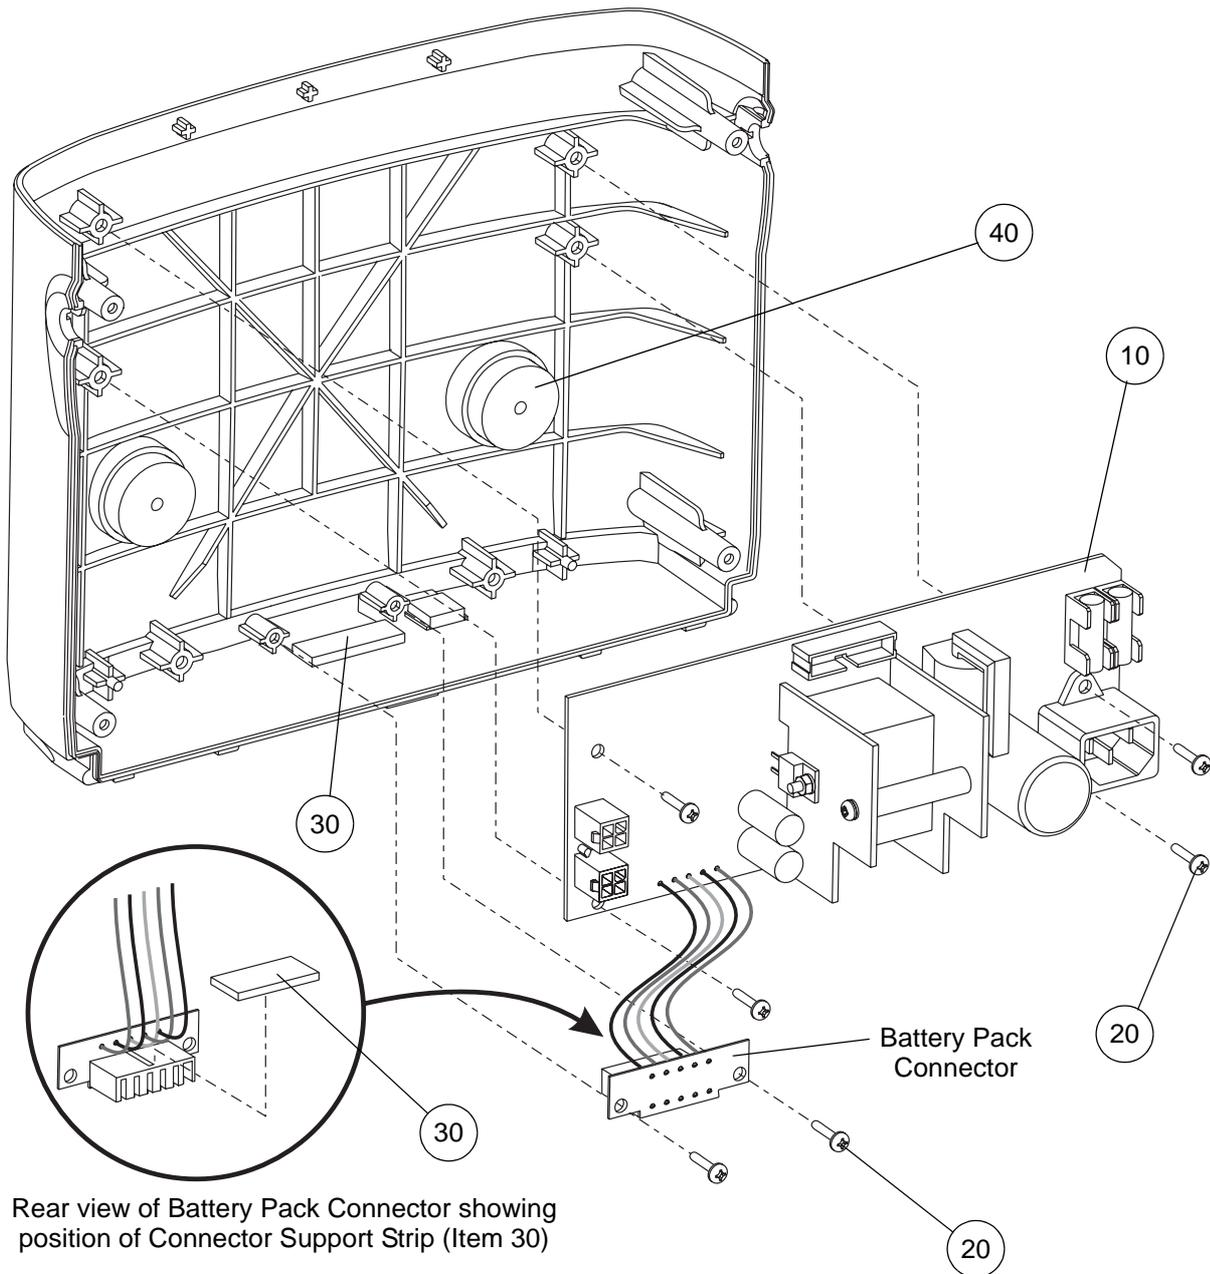

Figure 50 - Replacing the Power Supply PCB Assembly
- 26.3 Remove the two screws (Fig 50, Item 20) and the battery pack connector from the front case.
- 26.4 Remove the four screws (Fig 50, Item 20) and the power supply PCB assembly (Fig 50, Item 10) from the front case.
- 27.1 Put the power supply PCB assembly (Fig 50, Item 10) onto the front case, and install the four screws (Fig 50, Item 20) to secure it.
- 27.2 If a new power supply PCB assembly is being installed, stick a new connector sealing strip (Fig 50, Item 30) to the back of the battery pack connector. If the original power supply PCB assembly is being re-installed, make sure the connector sealing strip is still stuck to the back of the battery pack connector (Refer to Figure 50).
- 27.4 Insert the battery pack connector into the slot in the front case, and install the two screws (Fig 50, Item 20) to secure it.
Note: Make sure the wires from the power supply PCB assembly to the battery pack connector do not lie on top of the circular compressor support rubbers (Fig 50, Item 40).